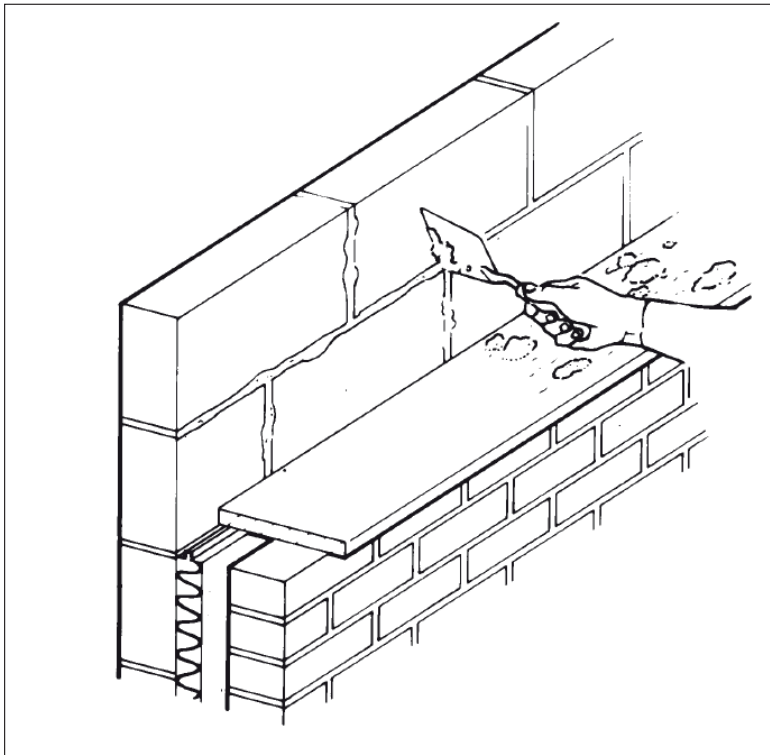

Figure 4 - Use of cavity board
- IKO Enertherm ALU Insulation recommend the use of a cavity board (i.e. timber boarding) and cavity timber stop (i.e. 10 mm plywood) to protect the IKO enertherm ALU Full Fill boards and to help keep the cavity clean as each section of wall leaf is built. (figure 4)